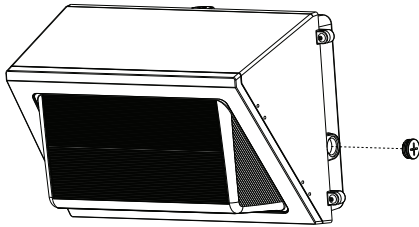

Fig. 16
1. Remove the 1/2 NPT KO plug on the side of the luminaire. (See Fig. 16)